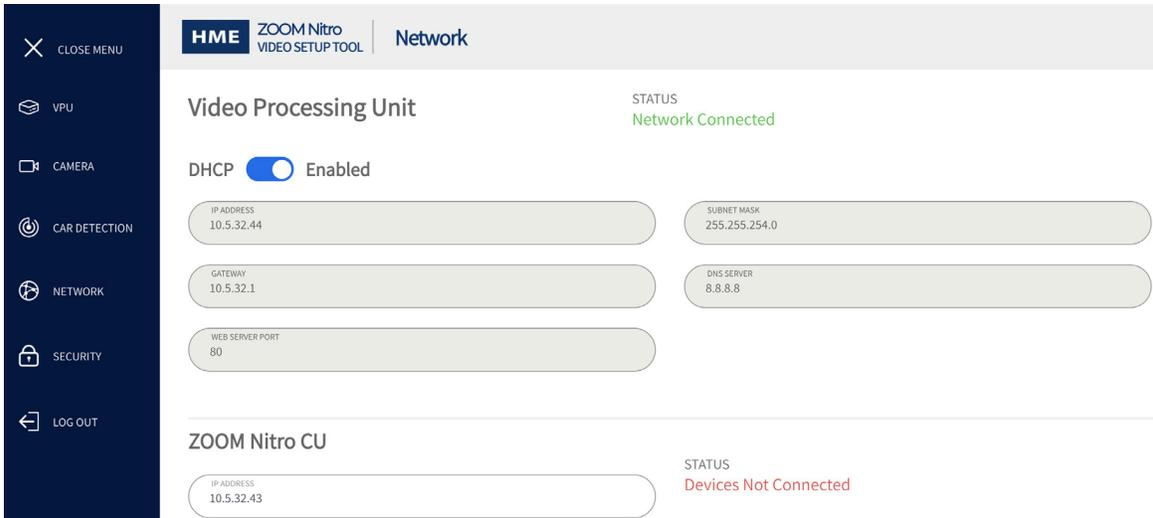

Fig. 5.1
3. Go to the NETWORK page (see Fig. 5.1) and type the IP address of the CU (from Table 3.1 on page 7) into the ZOOM Nitro CU field. (If a different fixed IP address has been assigned, see “How-To” section beginning on page 33.)